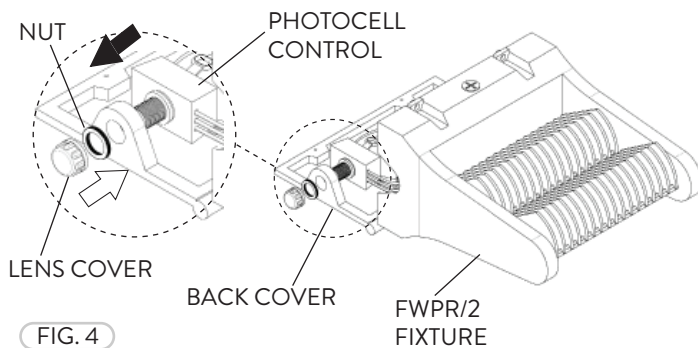

FIG. 4
- 2 Insert the Photocell Control through the threaded hole at the side/top of the FWPR/2 Back Cover. Fasten the Nut to secure the Photocell Control to the fixture. Fasten the Lens Cover for protection (Fig. 4). Apply sealant to connection for a water tight seal (Not included).